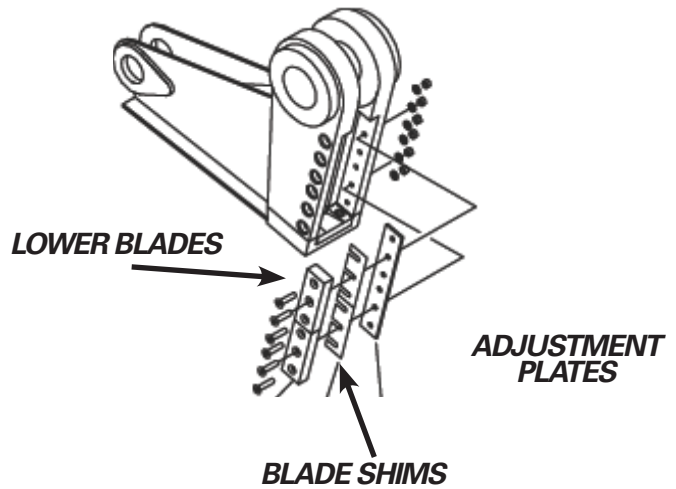

FIGURE 7-17
2. Remove each blade adjustment plate from the blade seat and clean out the blade seat thoroughly. **Reinstall each adjustment plate in the same position** (see Figure 7-17). Blade adjustment plates are custom machined for a specific blade seat.